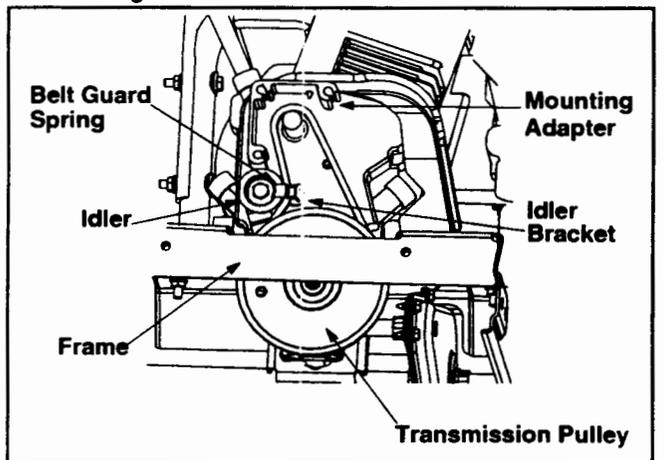

Figure 18
- Insert the new belt between the frame and transmission pulley. It may be necessary to use a screwdriver to pry the frame away from the pulley in order to insert the belt. Being careful not to damage the pulley, apply a slight upward pressure and place belt around transmission pulley. See Figure 18.
- Press down on the belt guard spring by the idler pulley and release spring from the slot on the idler bracket. Place the belt on the idler pulley and place belt guard spring back into the slot on the idler bracket. See Figure 18.